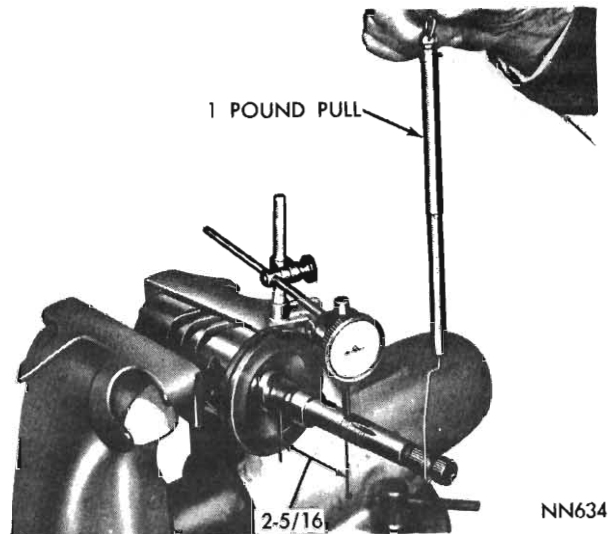

Fig. 17 - Checking worm shaft side play
(26) Test the operation of wormshaft. The torque required to rotate wormshaft throughout its travel in or out of piston must not exceed 2 lbs./in. with a 15 lb. side load. The worm should run in and out of piston under its own weight. Test for excessive side play with the piston held firmly in a vice with the rack teeth up, and the worm in its approximate centre of travel. The vertical side play measured at a point 2-5/16" from the piston flange should not exceed .008 inch when the end of the worm is lifted with a force of 1 lb. (refer Fig. 17)